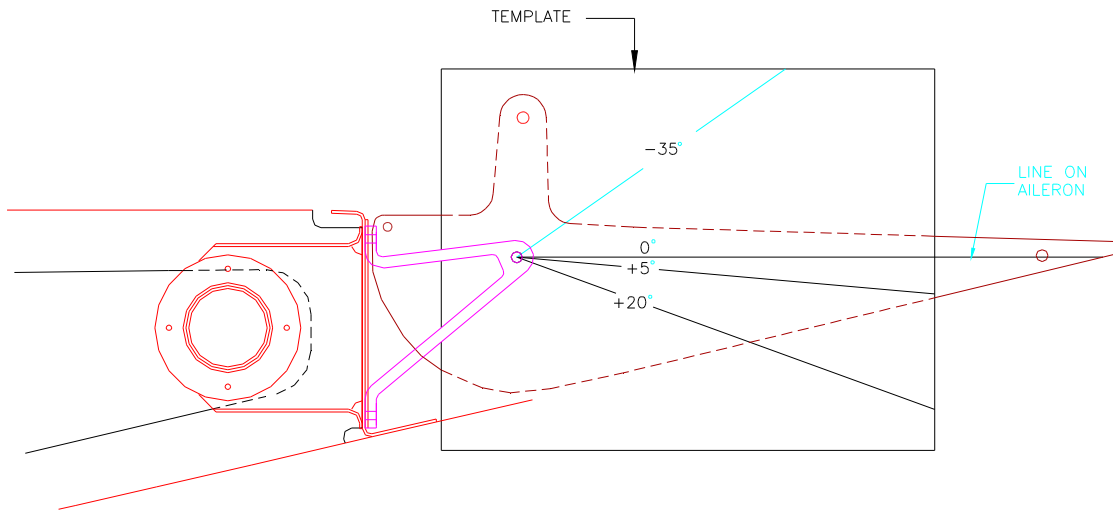

Figure 10.12.3
4) Mount the template to one end of the ailerons. Figure 10.12.3.